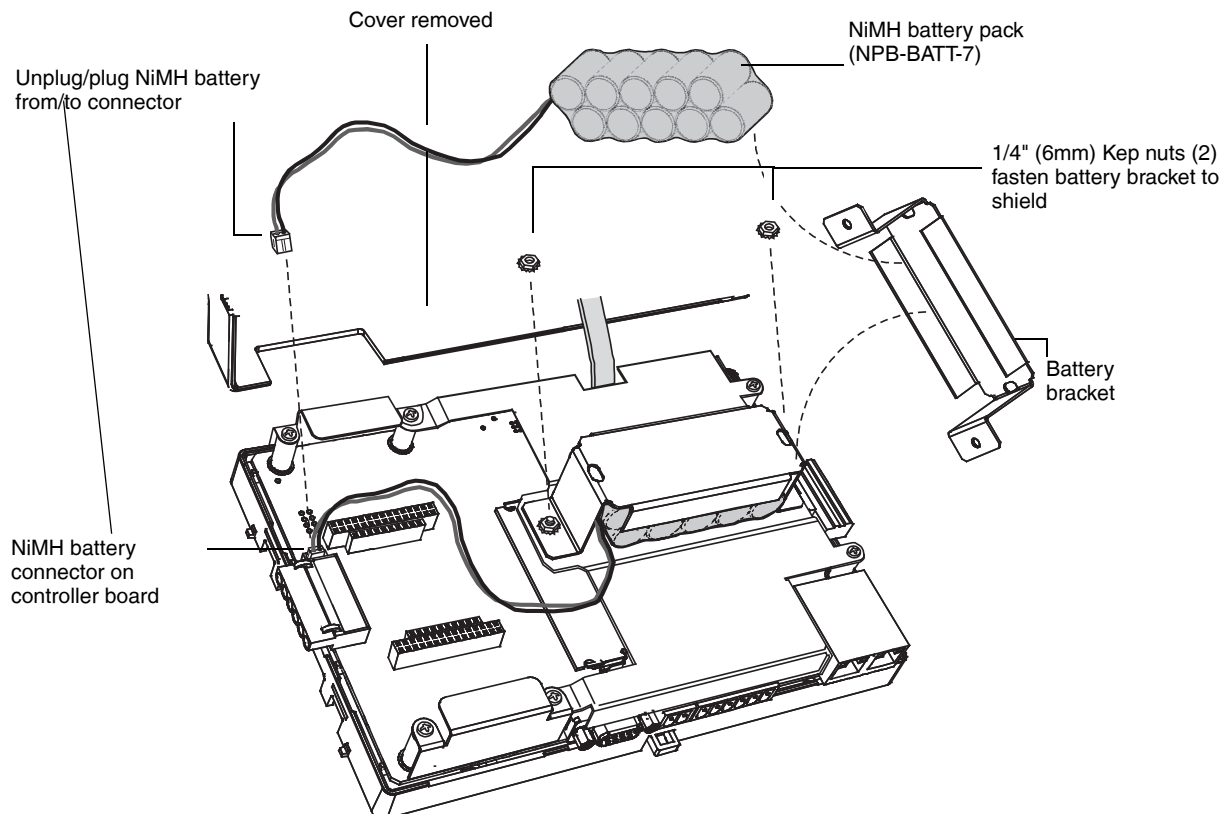

Fig. 12. Replacing NiMH battery pack in WEB/CP-700.
The replacement NiMH battery is an assembly, that is a custom battery pack with an attached cable and connector plug. See Fig. 12. To replace the battery, you must remove power to the unit and remove its cover.
At this point you have access to the NiMH battery assembly (Fig. 12).
4. Unplug the NiMH battery from the main board connector (see Fig. 12).